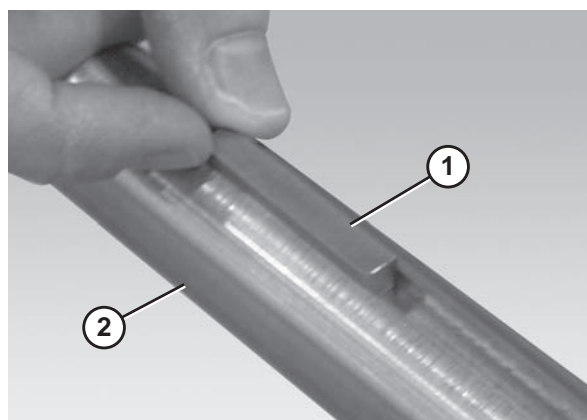

Figure 3
1. Insert the drive spindle key (Figure 3, item 1) into the drive spindle keyway (Figure 3, item 2).